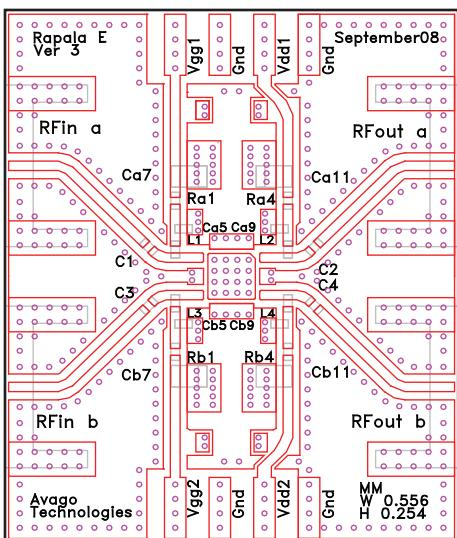

Figure 5. Demo Board Layout Diagram
RF performance at  $T_A = 25^\circ\text{C}$ ,  $V_{dd} = 5\text{V}$ ,  $I_{dd} = 50\text{mA}$ , 850MHz and 900MHz given for each RF channel, measured on demo board in Figure 5 with component list in Table1 for 850 MHz matching.
7. Measurements at 850 MHz and 900 MHz are obtained using demo board described in Figure 5.
RF performance at  $T_A = 25^\circ\text{C}$ ,  $V_{dd} = 5\text{V}$ ,  $I_{dd} = 50\text{mA}$ , given for each RF channel, measured on demo board in Figure 5 with component list in Table1 for 850 MHz matching. IIP3 is measured with input power of -15dBm per tone.
RF performance at  $T_A = 25^\circ\text{C}$ ,  $V_{dd} = 5\text{V}$ ,  $I_{dd} = 50\text{mA}$ , given for each RF channel, measured on demo board in Figure 5 with component list in Table1 for 850 MHz matching.